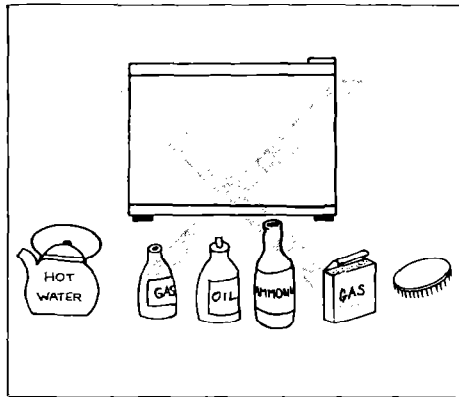

Fig. 3
- Never use ammonia or chemical bleaches; they will damage the refrigerator (fig. 3).